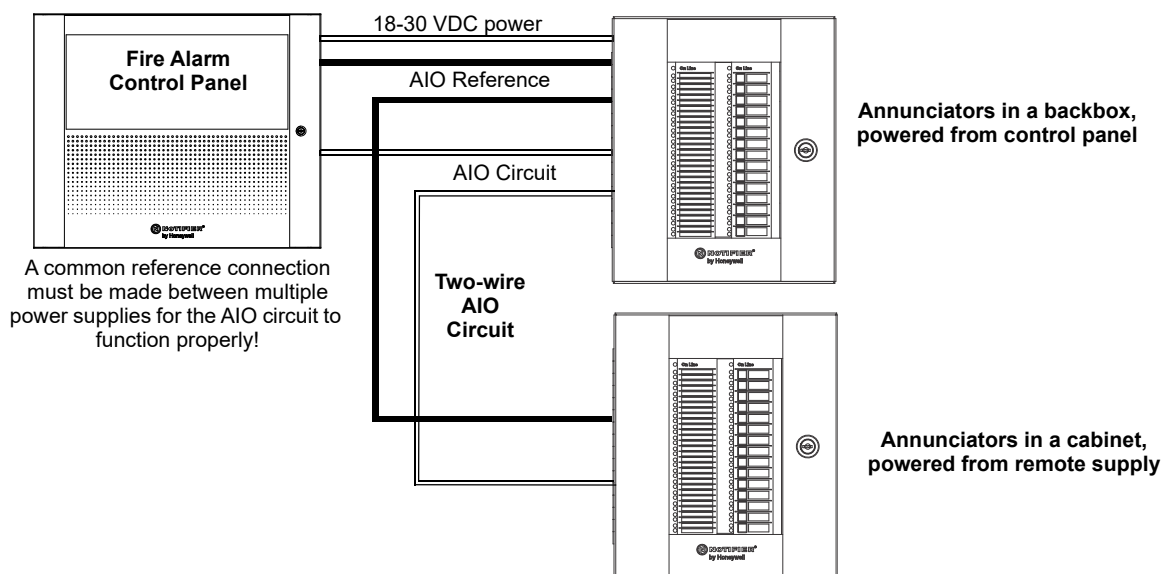

Figure 2.8 Using Multiple Power Supplies with the AIO Circuit
- If annunciators are to be mounted in a separate cabinet or powered by a remote power supply, see Figure 2.8, “Using Multiple Power Supplies with the AIO Circuit” on page 18.